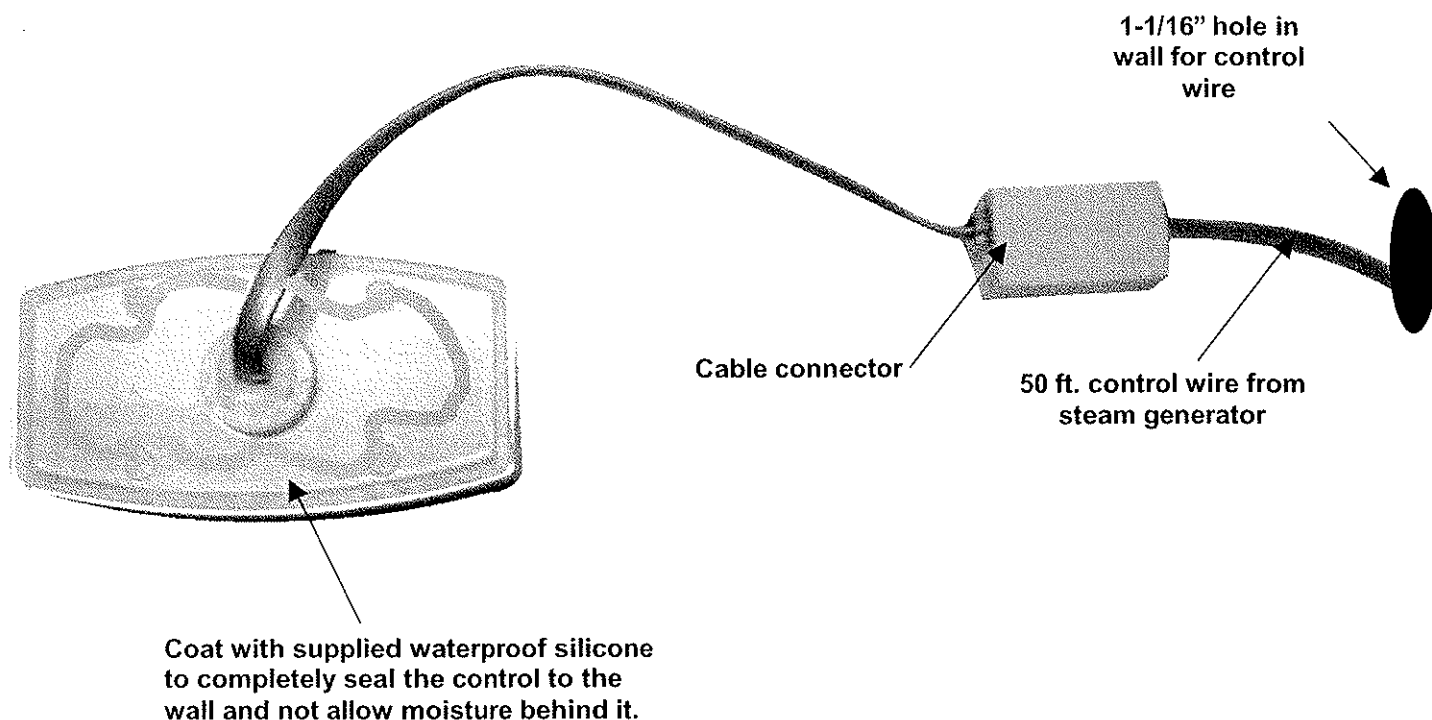

Figure 1
7. **THESE STEPS MUST BE TAKEN OR YOUR WARRANTY WILL BE VOID.** Coat the entire control back with supplied waterproof silicone. Completely seal the control to the wall so moisture does not get behind it. Place the control on the wall pressing firmly. You may need to tape the control into place until the silicone dries. Be careful not to harm the wall/control with the tape. (See Figure 1.) Let dry for 24 hours before using steam bath.